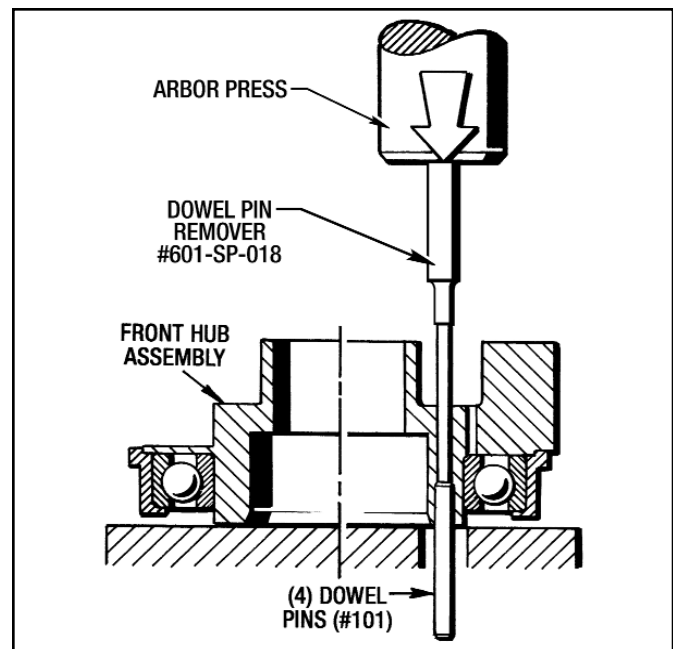

Figure 6.8 - Removing Dowel Pins (#101)
4. If any of the (4) Pins (#101), located in the Front Hub (#21), needs replaced, then press them out with an arbor press and the Dowel Pin Remover #601-SP-018, which is supplied in the Assembly Tool Kit #02-SP-002-03. (See Figure 6.8)